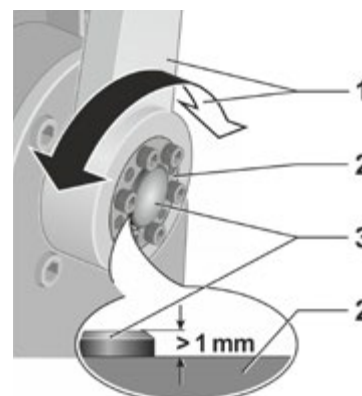

Fig. 2: Align swing lever and cone clamping element
4. Align swing lever (fig. 2, item 1) and heed distance between cone clamping element (item 2) and shaft (item 3).